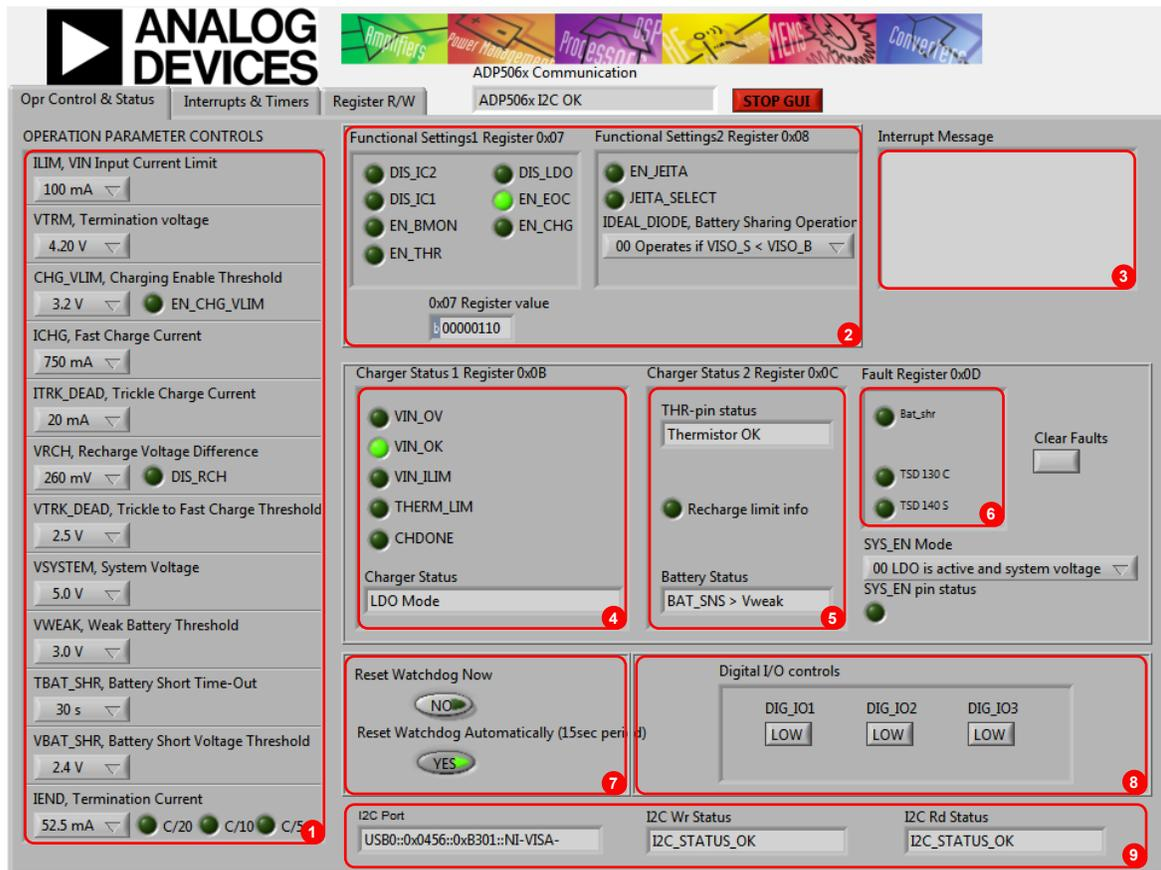
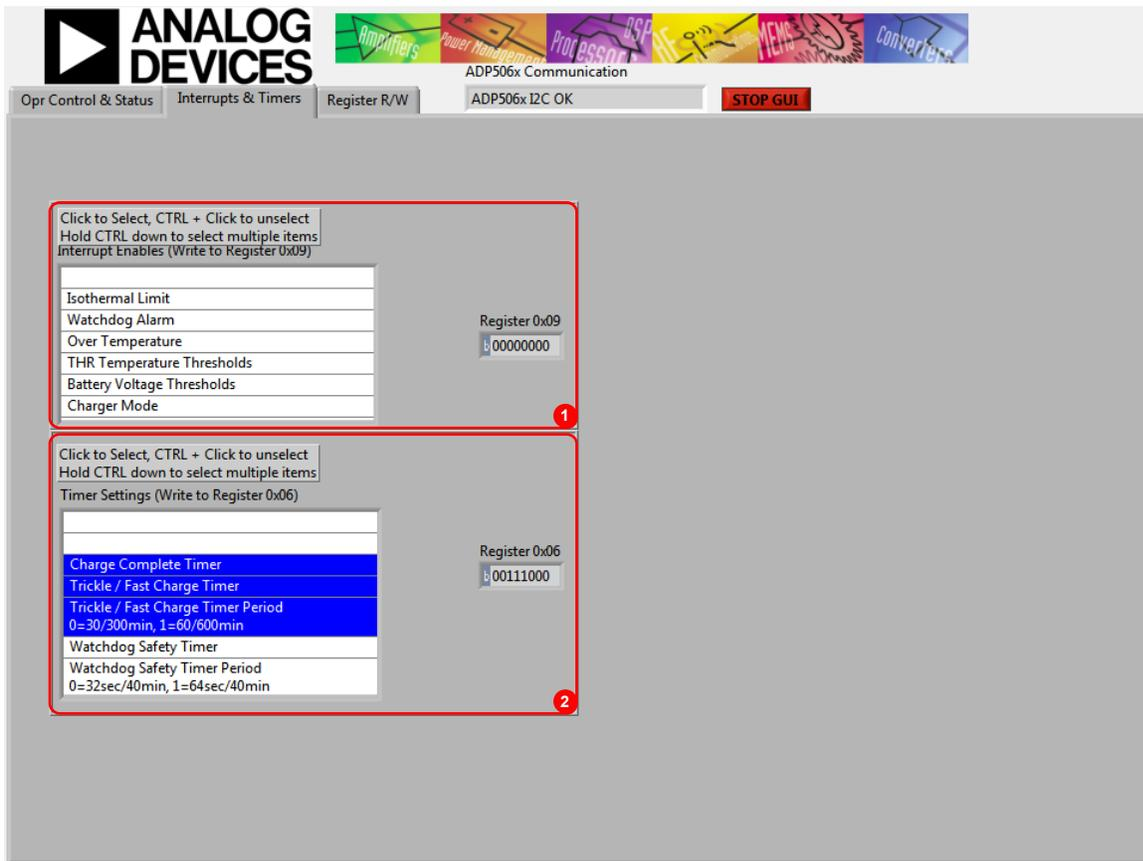

Figure 2. ADP5062 GUI Operation Control and Status Tab
Figure 3. ADP5062 Evaluation and Design Software GUI, **Interrupts & Timers** Tab
The GUI operation controls and status tools include the following (see Figure 2):
The V_{VIN} supply voltage must be above 2.5 V for the I²C communication of the ADP5062 to work. The VIN voltage level is monitored, and the indicators are shown in the charger status indicators (see Label 4 in Figure 2). The GUI automatically reads the content of the registers after every 0.3 seconds from the last action and updates the status of the registers on the screen.
If there is a problem in the I²C communication, the status indicators show an error message (see Label 9 in Figure 2). When I²C communication is operational, status indicators show **I2C_STATUS_OK** (see Figure 2).
When the input power supply is connected and is between 4.0 V and 6.7 V, the ADP5062 is operational and capable of charging the battery. Charging starts with default operational parameter settings. It is possible to change settings using the controls on the left side of the OPERATION PARAMETER CONTROLS menu (Label 1 in Figure 2).
The **Interrupts & Timers** tab (see Figure 3) in the GUI controls the register settings. Register 0x0A is automatically read after every 0.3 second timeout from the last user action involving the GUI. When a certain interrupt is enabled and there is a status change in the corresponding function during charging, an interrupt message is shown in the **Opr Control & Status** tab (see Label 3 in Figure 2).
The default settings of the timers are shown in Figure 3. To change the timer settings, click the items in the **Timer Settings (Write to Register 0x06)** box.
1. The **Battery Status** indicator on the GUI must show **BAT_SNS > Vweak** (see Figure 2).
4. Disable the charge complete timer at Register 0x06 using the GUI (see Figure 3).